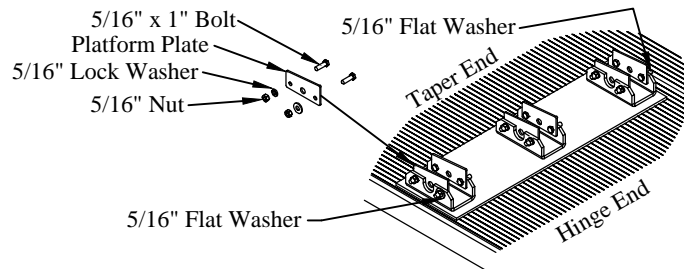

Figure 6: Platform plate location.
- 7. Install** the platform plates on the platform with the provided 5/16" x 1" bolts, lock washers, and nuts. The wide end goes toward the platform hinge. Note the location of the two (2) flat washers in place of lock washers (Figure 6).